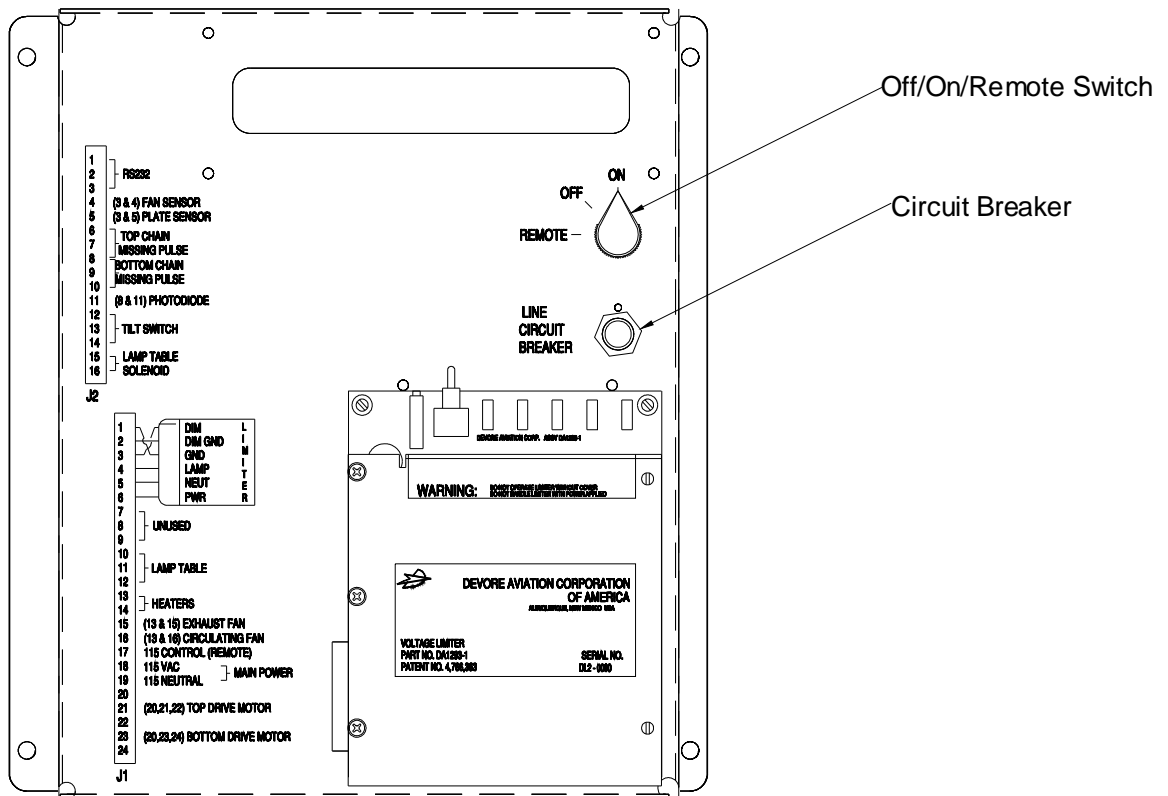

Figure 14 HELI-PLASI 2000 Control Panel
1. Pull the 10 amp circuit breaker to its "off/open" position. Figure 14.
2. Turn "On/Off/Remote" switch to the "off" position in HELI-PLASI 2000. Figure 14.